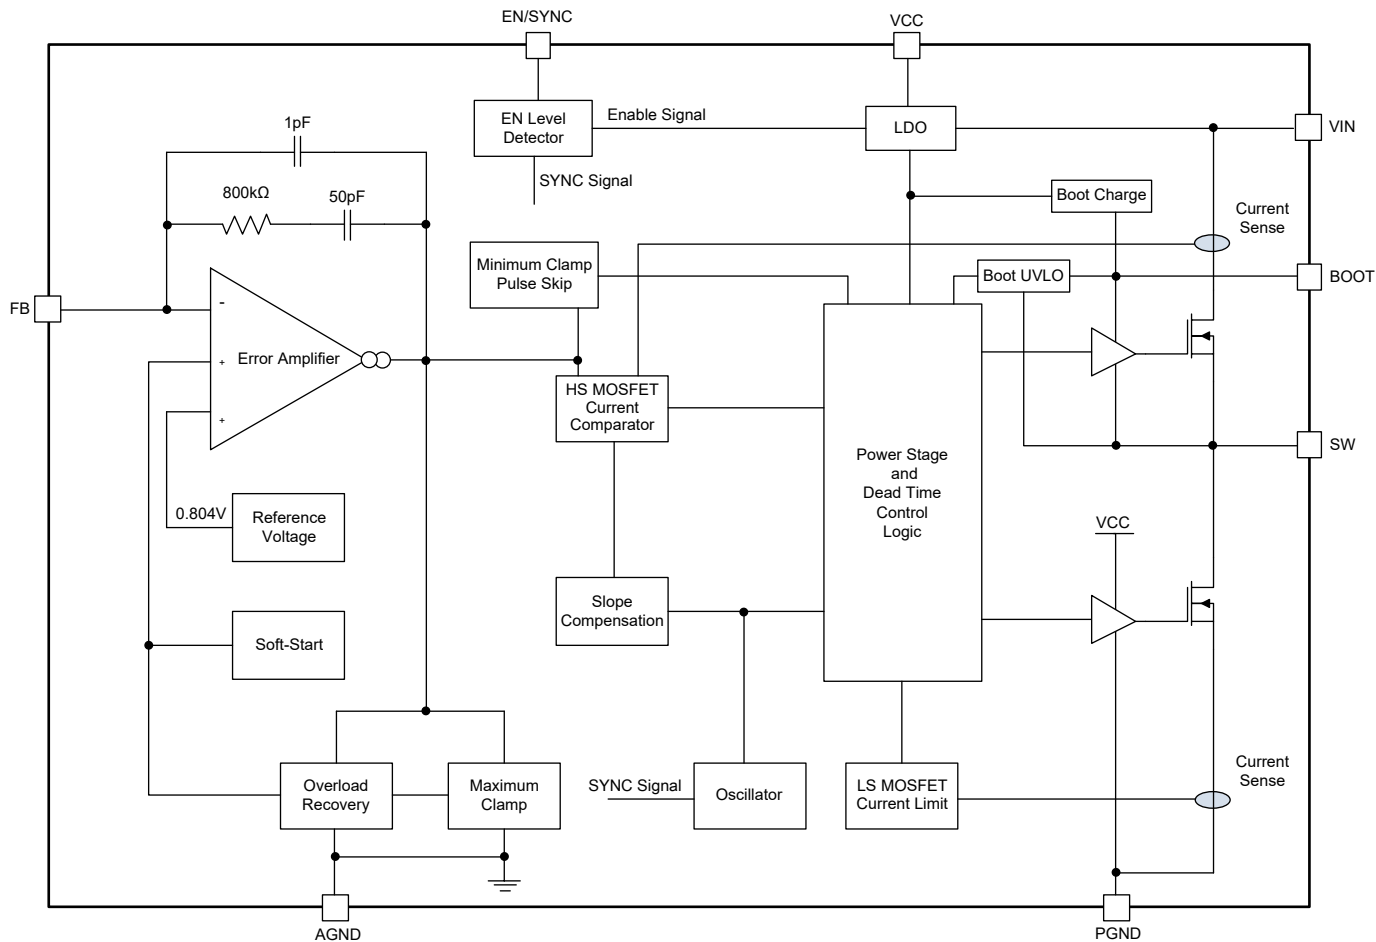
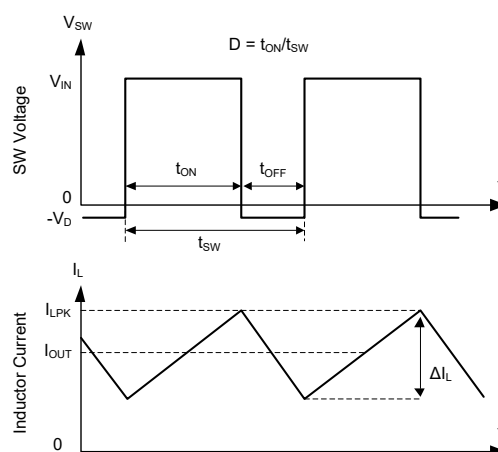
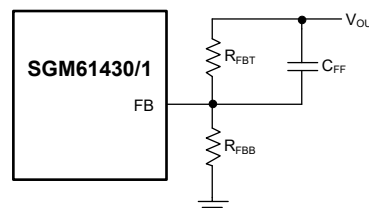

Figure 2. Block Diagram
Figure 3. Converter Switching Waveforms in CCM
Figure 8. Improving Loop Compensation by Feed-Forward Capacitor
The Functional Block Diagram and basic waveforms of these Buck synchronous converters are shown in Figure 2 and Figure 3. The N-MOSFETs are used for high-side (HS) and low-side (LS) (synchronous rectifier) switches. The HS duty cycle ($D = t_{ON}/t_{SW}$) is controlled in closed loop to regulate and maintain the output voltage at a constant level. The switching period is $t_{SW} = 1/f_{SW}$, and the HS on-time is t_{ON} . When HS is turned on, the SW node voltage sharply rises towards V_{IN} , and the inductor current (I_L) starts ramping up with $(V_{IN} - V_{OUT})/L$ slope. When HS is turned off, the LS is turned on after a very short dead time to avoid shoot-through, and I_L ramps down with $-V_{OUT}/L$ slope. When the inductor current is continuous (either due to sufficient load or FPWM), the output voltage is proportional to the input voltage and duty cycle ($V_{OUT} = D \times V_{IN}$) if component parasitics are ignored.
The SGM61430 and SGM61431 are internally compensated (see Figure 2) and are stable over the entire f_{SW} and V_{OUT} operating range. However, the phase margin can be low for some ranges of V_{OUT} when low ESR ceramic capacitors are used in the output. In such cases, it is recommended to use a feed-forward capacitor (C_{FF}) in parallel with the R_{FBT} to improve the transient response as shown in Figure 8.
The HS switch over-current protection is natural in peak current mode control. In each cycle the HS current sensing starts a short time (blanking time) after it is turned on. The slope compensation ramp is deducted from the EA (Error Amplifier) output to avoid sub harmonic oscillations and the result is compared to the HS current to determine the HS turn-off time (on-time). See Figure 2 for details. Before comparison, the EA output is clamped to a fixed maximum threshold (I_{HS_LIMIT}) to limit the current. So, the peak current limit of the high-side switch is not affected by the slope compensation and remains constant over the full duty cycle range.
An external resistor divider is used to set the output voltage as shown in Figure 8. Use Equation 12 to set V_{OUT}: